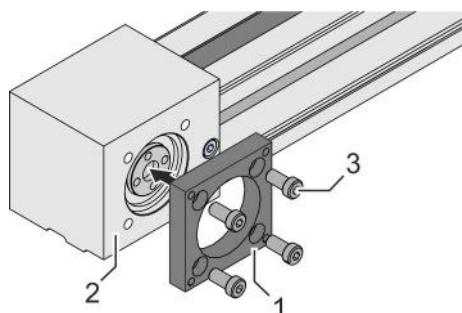

Fig. 24: Assembling the intermediate plate
1. → Place the intermediate plate (Fig. 24/1) on the pulley box (Fig. 24/2) of both linear units.
2. → Tighten 4 screws each (Fig. 24/3), alternating diagonally: